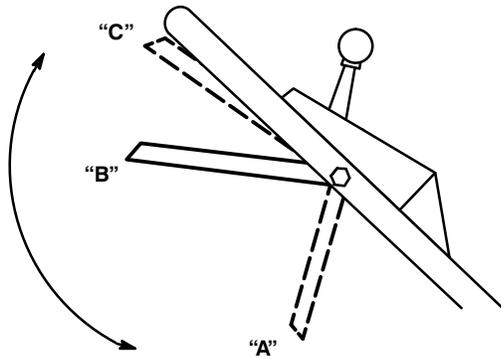

Figure 12
4. **BLADE AND TRACTION OPERATION** (Fig. 12)—When control bar is in position “A”, slide control bar to right and raise to position “B” to engage blade. Squeeze control bar against handle to position “C” to drive. To disengage traction drive but keep blade engaged, gradually release control bar to position “B”. To self-propel with blade disengaged, simply squeeze control bar against handle to position “C”, without sliding control bar to right.